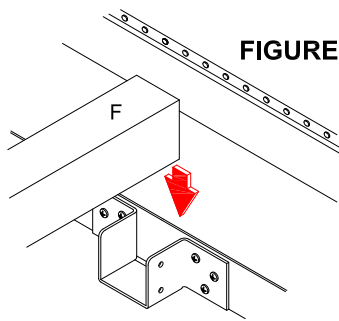
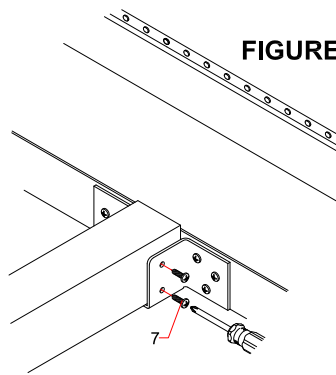

FIGURE 4A
FIGURE 4B
- There are pre-installed wooden brackets on inside of both headboard (A) and footboard (C) for the slat support rail (F). Set the slat support rail (F) on the wood brackets as per illustration in FIGURE 4A. Once the support rail (F) is set, secure this with screws (7) provided, as in FIGURE 4B. If necessary, adjust the leveler on bottom of the support leg (G) to make sure the slat support rail is level. See FIGURE 5.